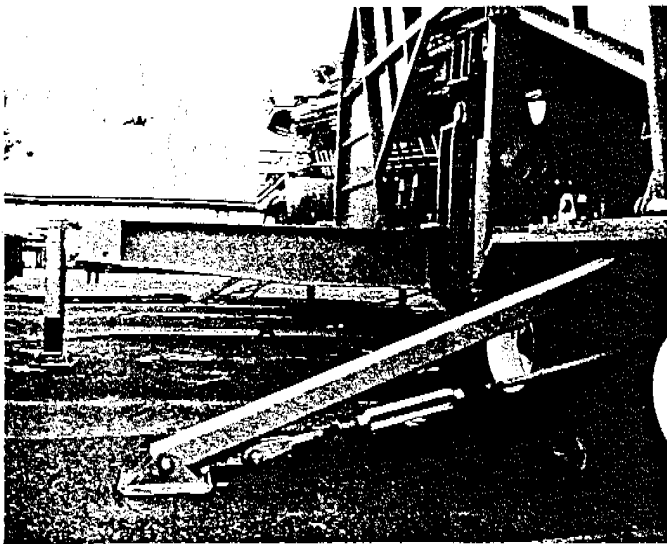

Fig. 13
- d. Install the rear outriggers under the trailer fenders behind the rear landing gear. PIN AND SNAP KEY (a) Swing the turnbuckles up and pin to the ears on the trailer frame (b). (Fig. 13)